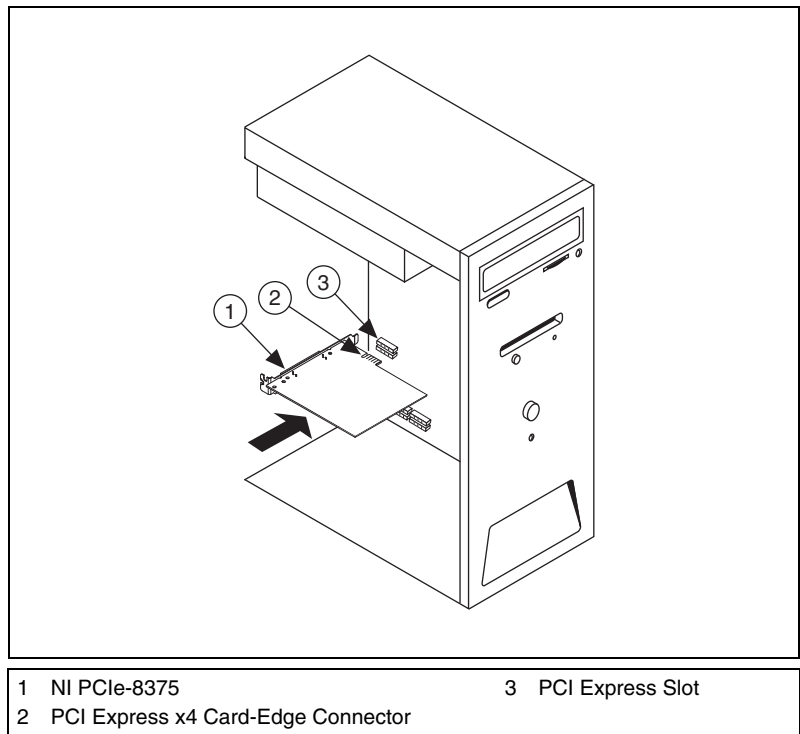

Figure 1. Installing the NI PCIe-8375
6. Line up the NI PCIe-8375 with the slot on the back panel. Slowly lower the NI PCIe-8375 until its card-edge connector is resting on the expansion slot receptacle. Using slow, evenly distributed pressure, press the NI PCIe-8375 straight down until it seats in the expansion slot, as shown in Figure 1.